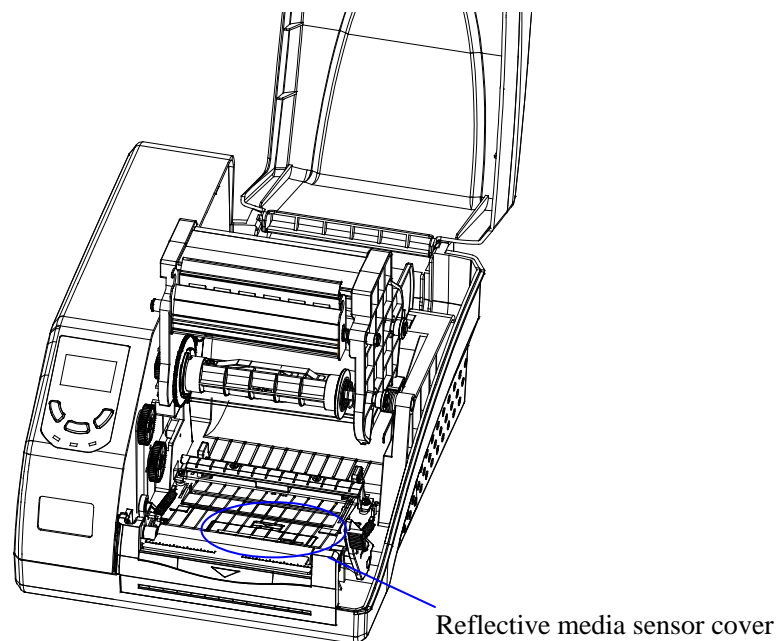

Figure 7-1
3. Lift the Printhead Module to expose the Media Sensor cover (see Figure 7-1).